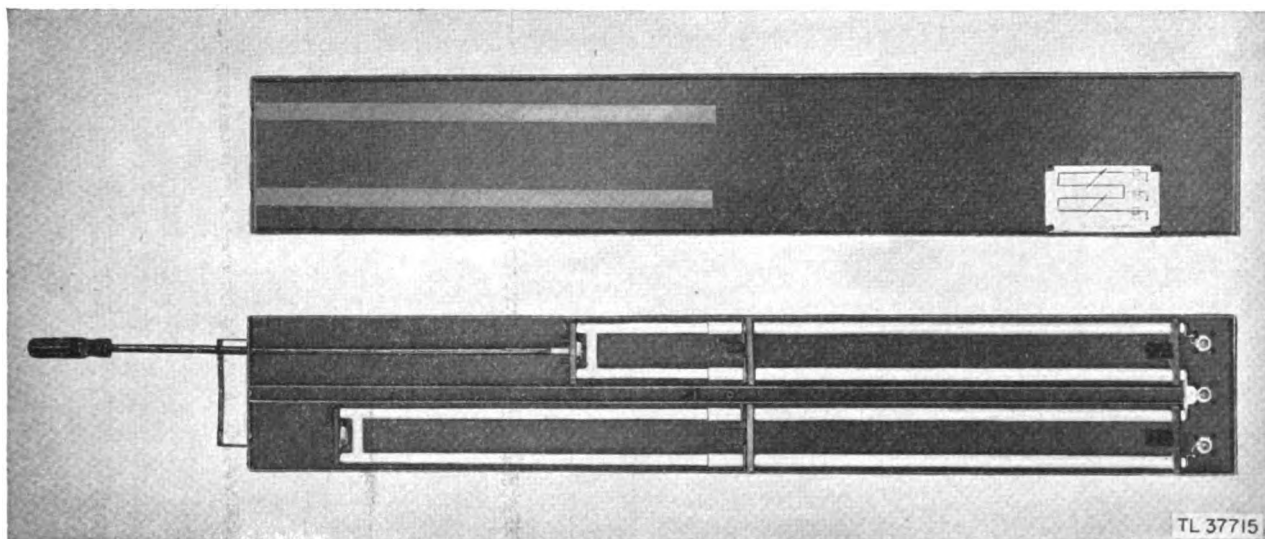
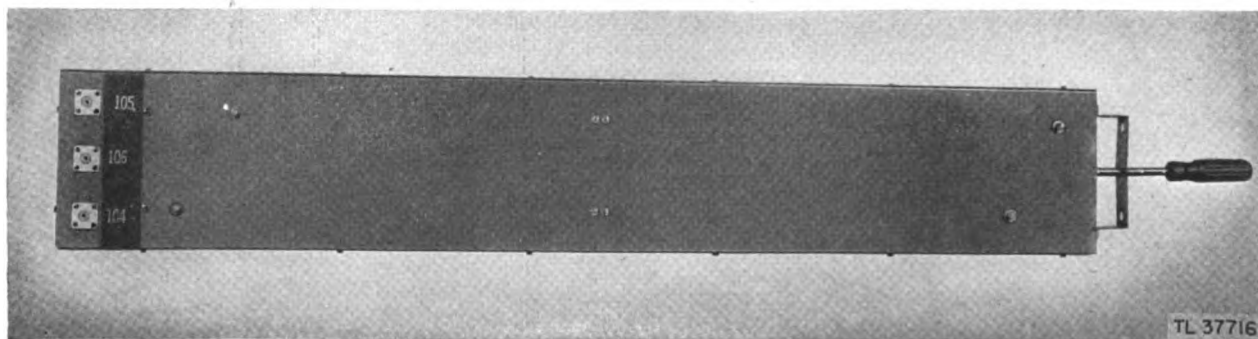

Figure 27. Antenna matching section—inside.
Figure 28. Antenna matching section—outside.
**ITC. INSIDE OF ANTENNA MATCHING SECTION (fig. 27).**
(1) Inspect the trombones for dirt or signs of corrosion.
(2) Inspect the three soldered connections at the bottom of the case.
(3) Tighten all bolts and mountings where necessary.
(4) Clean the inside of the case.
**ITC. OUTSIDE OF ANTENNA MATCHING SECTION (fig. 28).**
(1) Tighten the screws on the outside of the case when necessary.
(2) Clean the outside of the case.
**a. PREPARATORY STEPS.** (1) *Tools and materials needed.*